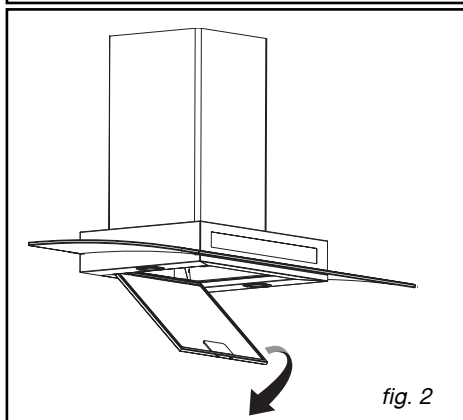

fig. 2
– Tip the filter cartridge downward (fig.2).